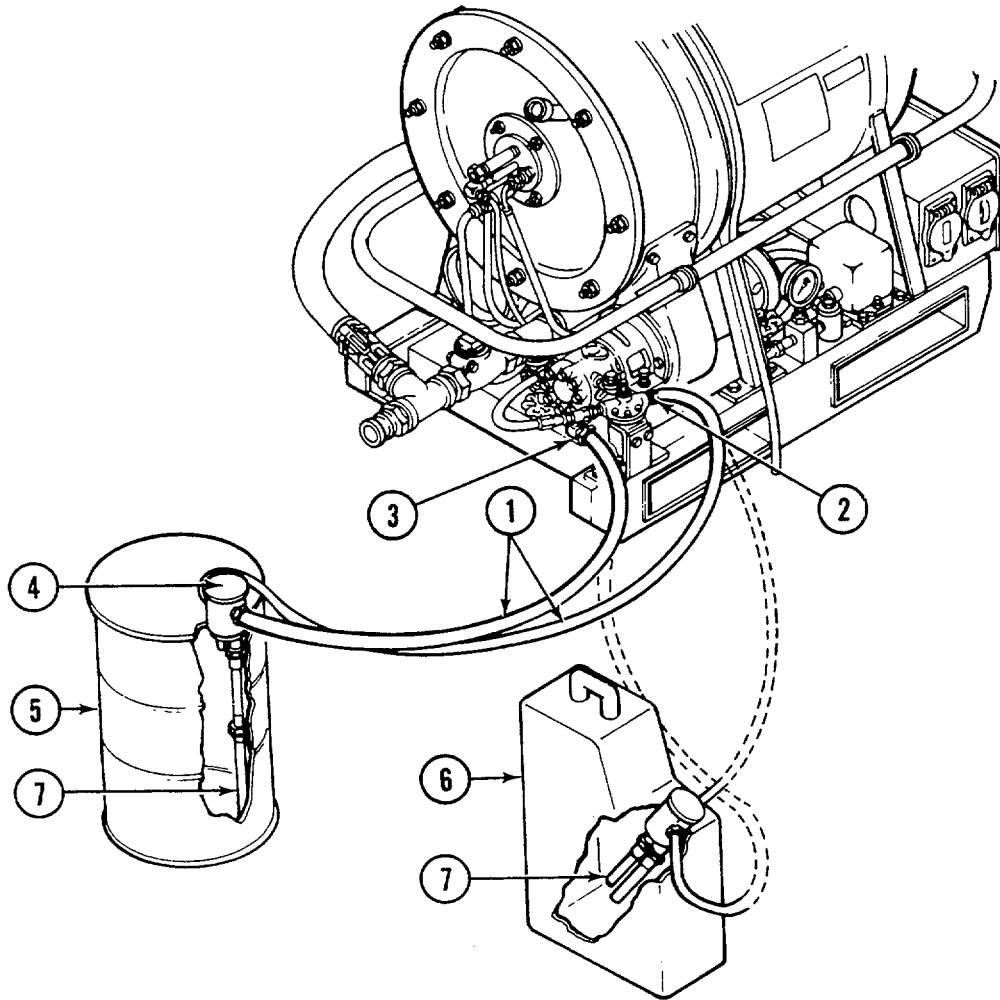

FIGURE 2-15. Water heater fuel line connections.
- (1) Obtain two fuel lines (1, FIG. 2-15).
Ensure that fuel lines (1, FIG. 2-15) do not touch or cross water hoses, power cables, or exhaust ducts. Melting/damage can occur causing leaking fuel and water or electrical hazards. Death by electrocution, fire, or explosion could result.